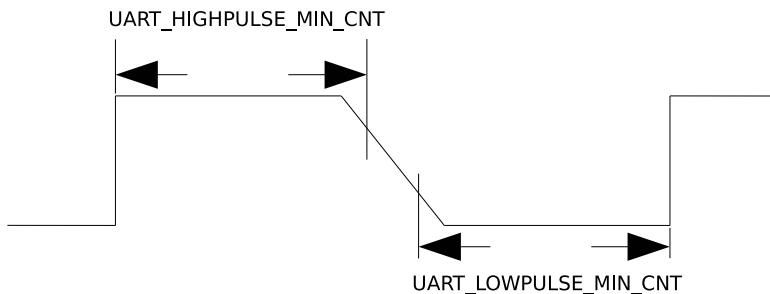

Figure 26-4. The Timing Diagram of Weak UART Signals Along Falling Edges
2. If UART signals are weak along falling edges as shown in Figure 26-4, which leads to inaccurate average of `UART_LOWPULSE_MIN_CNT` and `UART_HIGHPULSE_MIN_CNT`, use `UART_POSEDGE_MIN_CNT` to determine the transmitter's baud rate as follows: